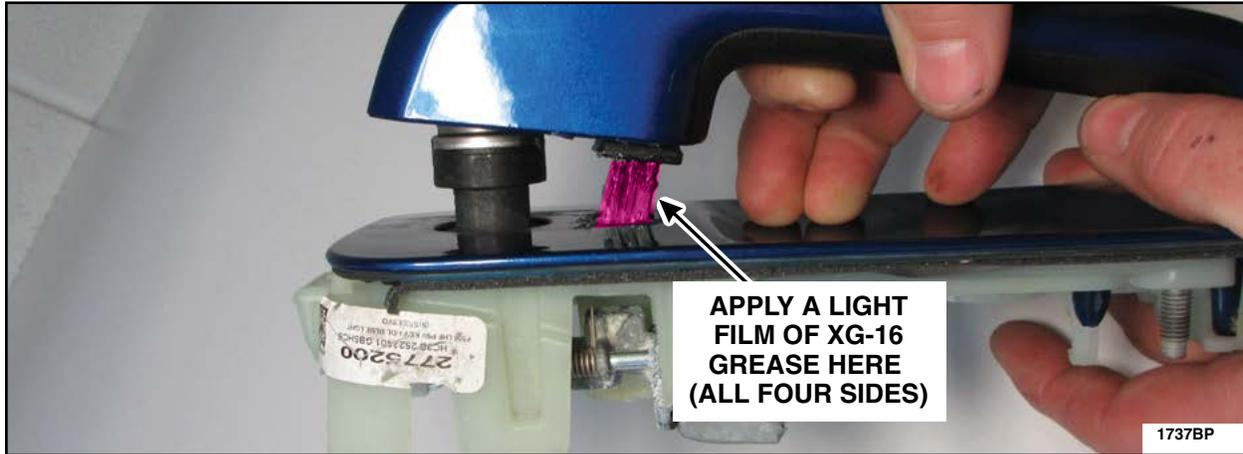

FIGURE 27
30. Using a clean shop towel and isopropyl alcohol, clean the handle plunger then using a brush apply a light film of Motorcraft® XG-16 low temperature grease to all four sides of the exterior door handle plunger and to the mechanisms in the areas shown in Figures 27 and 28.